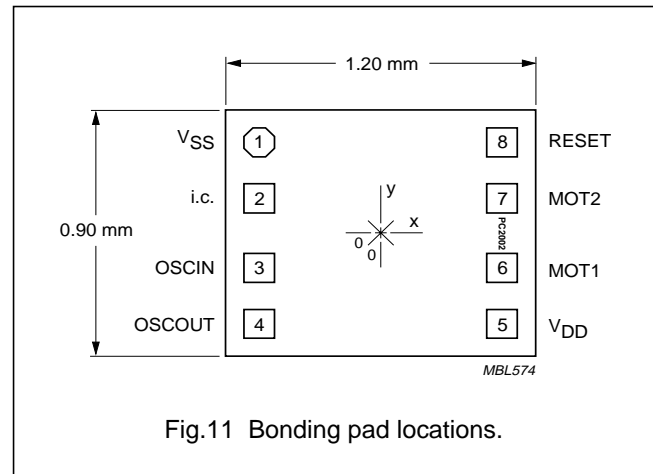

Fig.11 Bonding pad locations.
1. All coordinates are referenced, in μm , to the centre of the die (see Fig.11).